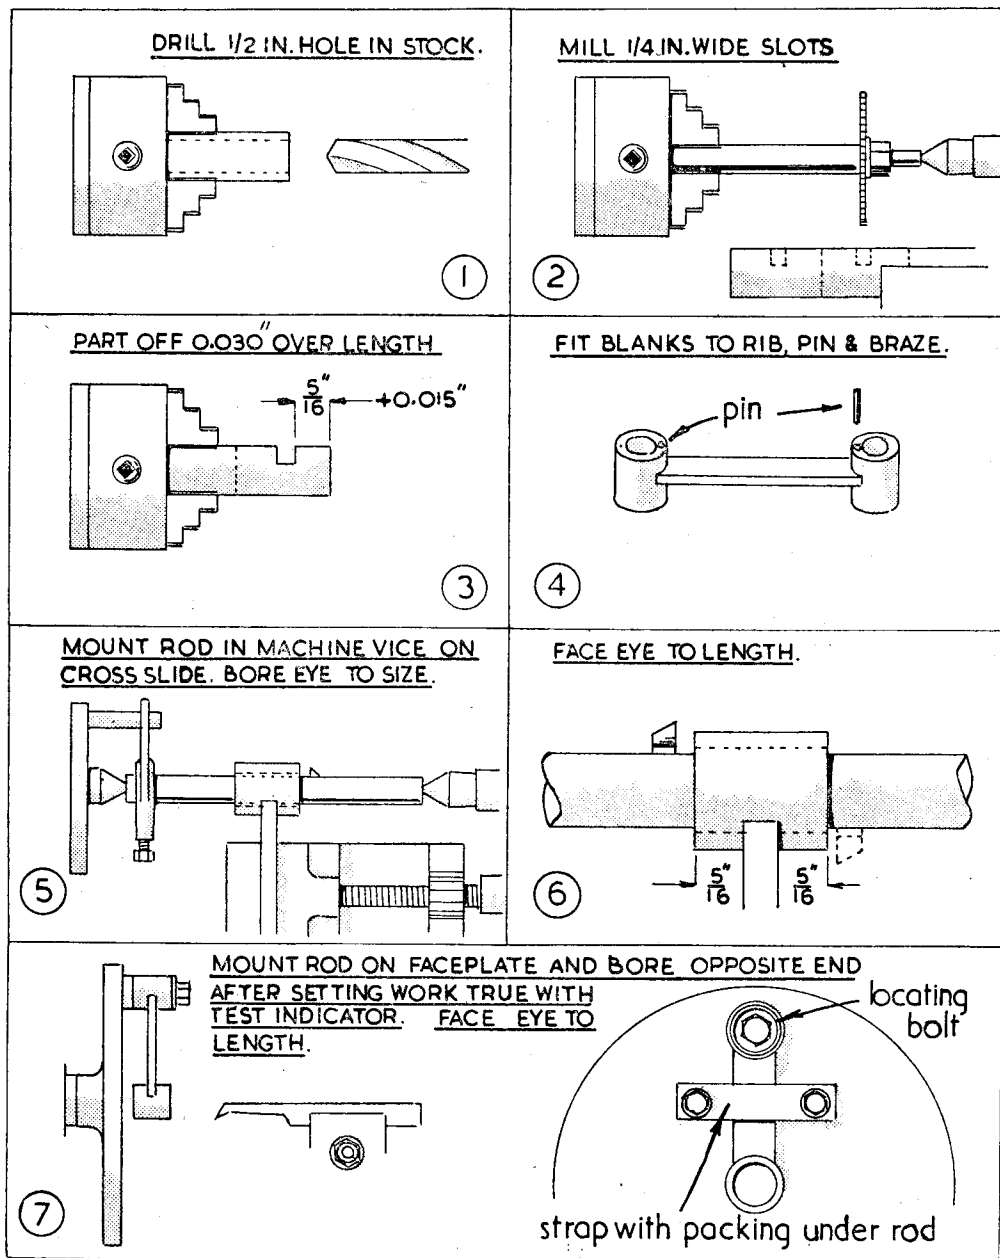
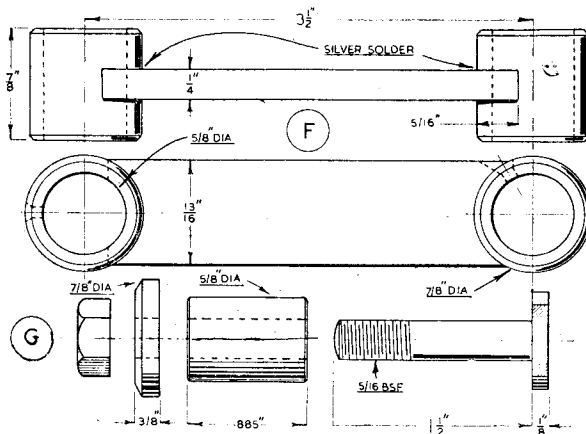
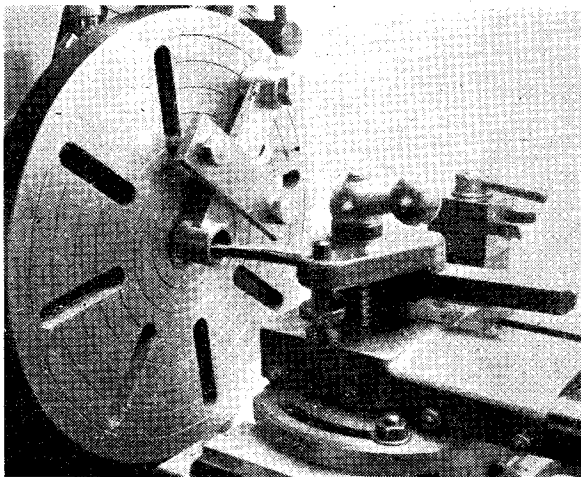

Fig. 11. Sequence of operations for machining the connecting-rod
Fig. 10. Details of the connecting-rod and small-end bolt
Fig. 12. Machining the connecting-rod of the slotting attachment. For the sake of clarity, the balance weight has been removed from the faceplate
The small-end bolt (G) illustrated in Fig. 10 is of similar construction to the crankpin and calls for no special comment except to repeat the advice about the cast-iron bush already given, namely, make sure that both ends of this part are square with the bore.
The part has already been illustrated in Fig. 7 where it is seen with the driver plate. The details of the connecting-rod are given in the illustration (Fig. 10) and the series of operations for making the component are depicted in Fig. 11.
been tested and found to be a firm fit in the slots previously milled in the blanks. The blanks and the body are then assembled by pressing them together; this part of the work can very well be carried out in a vice, provided that packings are used to protect the work. After assembling the parts, a hole is drilled, as illustrated in Fig. 11, Operation 4, to take a close-fitting pin. This will
When the brazing has been completed, the connecting-rod is set up in a machine vice secured to the lathe cross-slide so that one eye of the rod can be bored to size by means of a boring bar running between centres, as depicted diagrammatically in Fig. 11, Operation 5.
Following this operation, and at the same setting, the connecting-rod eye is faced to length, as seen in the sketch, Fig. 11, Operation 6. As will be observed, a flat-faced tool is made to sweep the end of the eye, thus machining it to the correct length of $\frac{5}{16}$ in. as measured from the face of the rib.
The component is, therefore, set up on the faceplate, as depicted diagrammatically in Fig. 11, Operation 7, and as seen also in the illustration (Fig. 12) where it will be observed that a locating-bolt is passed through the machined eye of the connecting-rod. This bolt will secure the rod at the correct radius, but, of course, cannot be relied upon to hold the work firmly against the stresses imposed by the actual machining operations. For this reason, a strap is fastened over the body to hold the connecting-rod firmly against packing placed under the body. In order to ensure that this packing does not throw the work out of alignment, a dial test indicator should be applied to the face of the eye; any movement of the work, as the packing is put in place or the strap is tightened, will then be recorded.